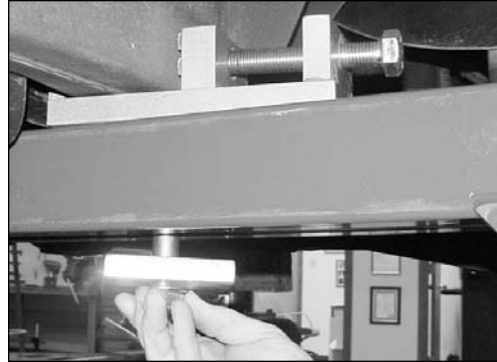

Figure 18
3. Secure rail vise to the crossbar using an appropriate length tie down bolt and tie down plate. Insert bolt upward through channel in crossbar and hole in spacer(s) - if installed. Thread the bolt into the base of the rail vise and hand-tighten at this time. (See Figure 18.)